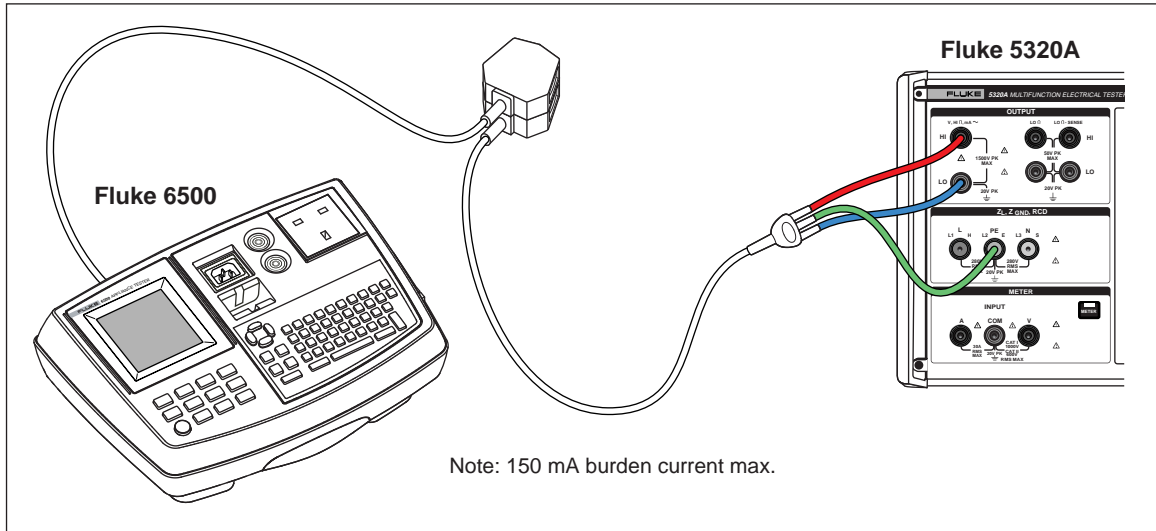

Figure 7-19. Voltage Calibration on Line Powered Appliance Testers
1. Using Figures 7-19, connect the UUT to the Calibrator's Meter A, COM and V terminals. Also, make a protected earth (ground) connection between the UUT and the Calibrator's PE terminal.